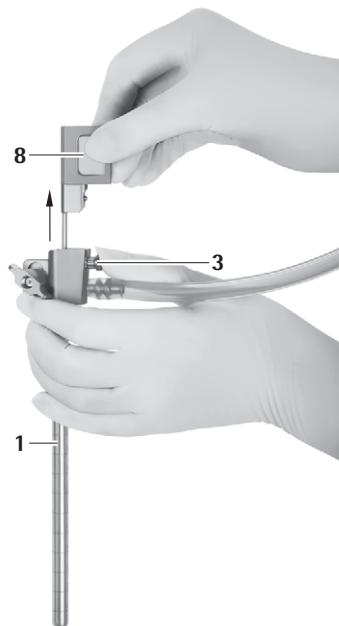

Fig. 10
- ▶ Press the release button **3** and carefully remove the obturator for the optical channel **8** from the MINOP InVent trocar **1**, see Fig. 10.